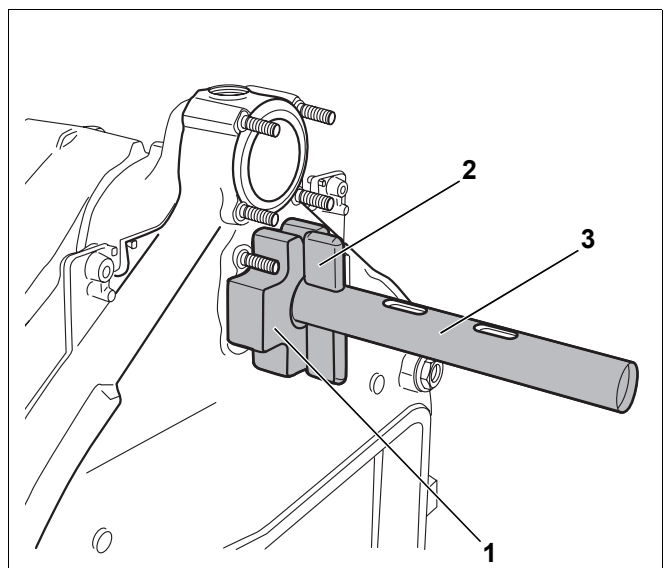

Fig. 15 Boiler compression tool at the rear section
- Push additional pull flanges onto both pull rods (Fig. 15, **Item 3**) at the back of the boiler (Fig. 15, **Item 1**) and secure each with a wedge (Fig. 15, **Item 2**) or cylindrical pin (for compression tool 2.2).